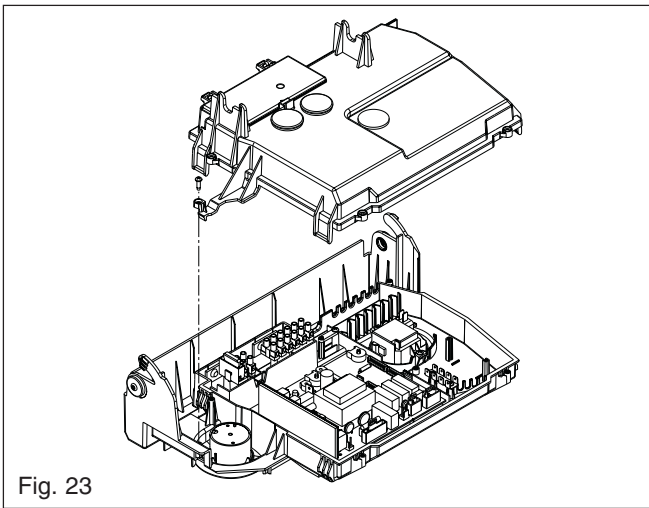

Fig. 23
**6.12 PRINTED CIRCUIT BOARD fig. 23**
Locate and remove the PCB cover and securing screws (fig 23/23A), locate and remove the time clock retaining screws, remove time clock. Disconnect wiring after carefully taking note of all electrical connections. Replace in the reverse order.